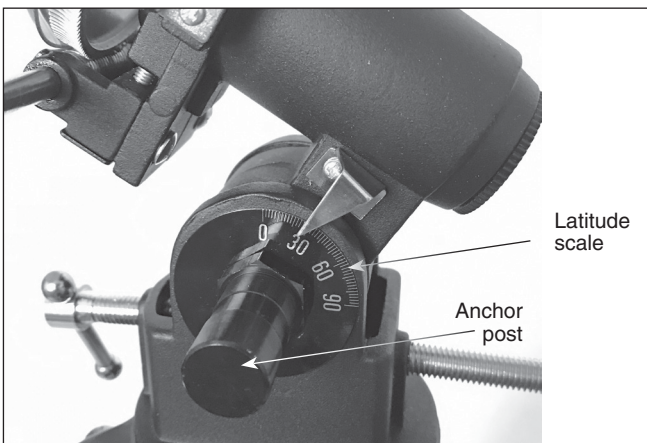

Figure 4. Thread on the anchor post where the acorn nut was.
3. Thread on the anchor post (E) until tight (**Figure 4**). If the latitude scale moved when the acorn nut was removed, rotate it to the proper orientation before tightening the anchor post. The proper orientation is with the 0 degree mark pointing straight up.